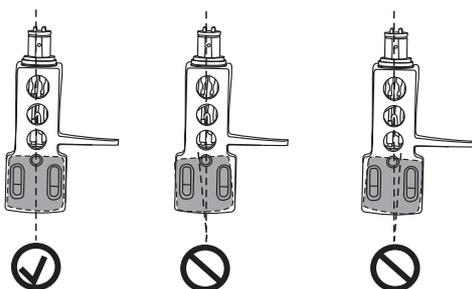

Fig. 10 Adjusting the azimuth
5. For optimized pick-up the overhang – the distance between the stylus and the axle of the turntable – should be set to 15 mm. Make sure that the system is centered (correct azimuth) and the screws are fixed (Fig. 10).